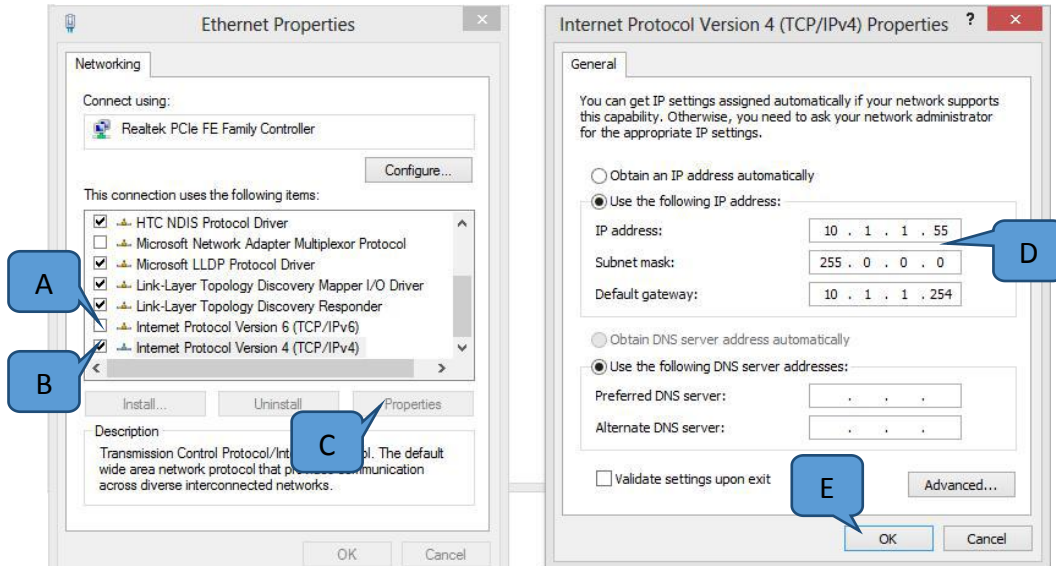

Figure 18 (Only for V810 Series 1)
18. For V810 Series 1, set the Ethernet configuration as Figure 18.